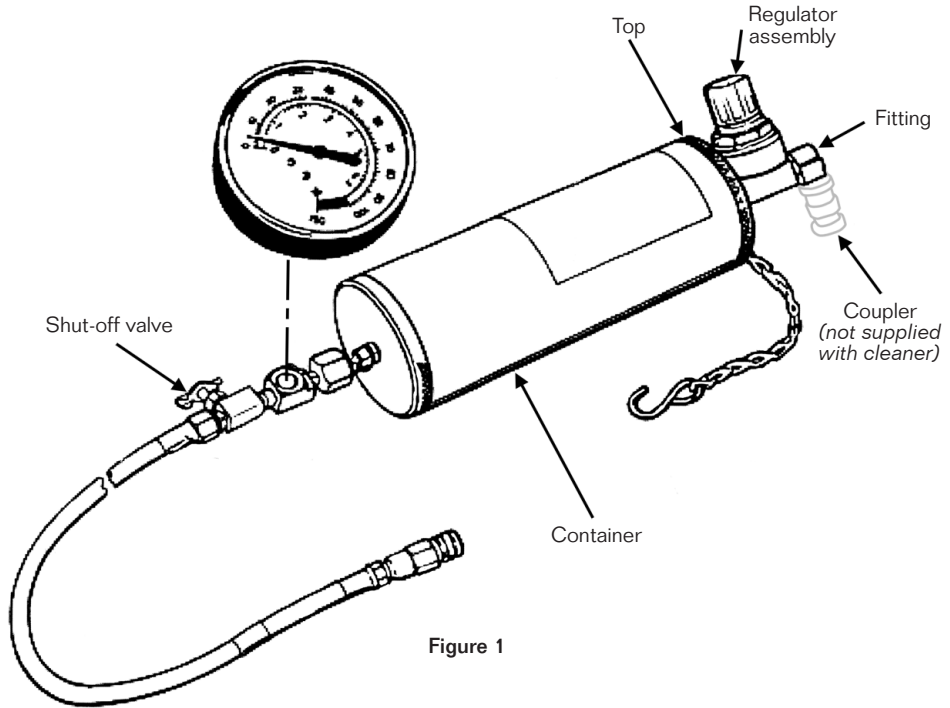

Figure 1
5. Turn OFF shut-off valve at bottom of Fuel Injector Cleaner container. See Figure 1.